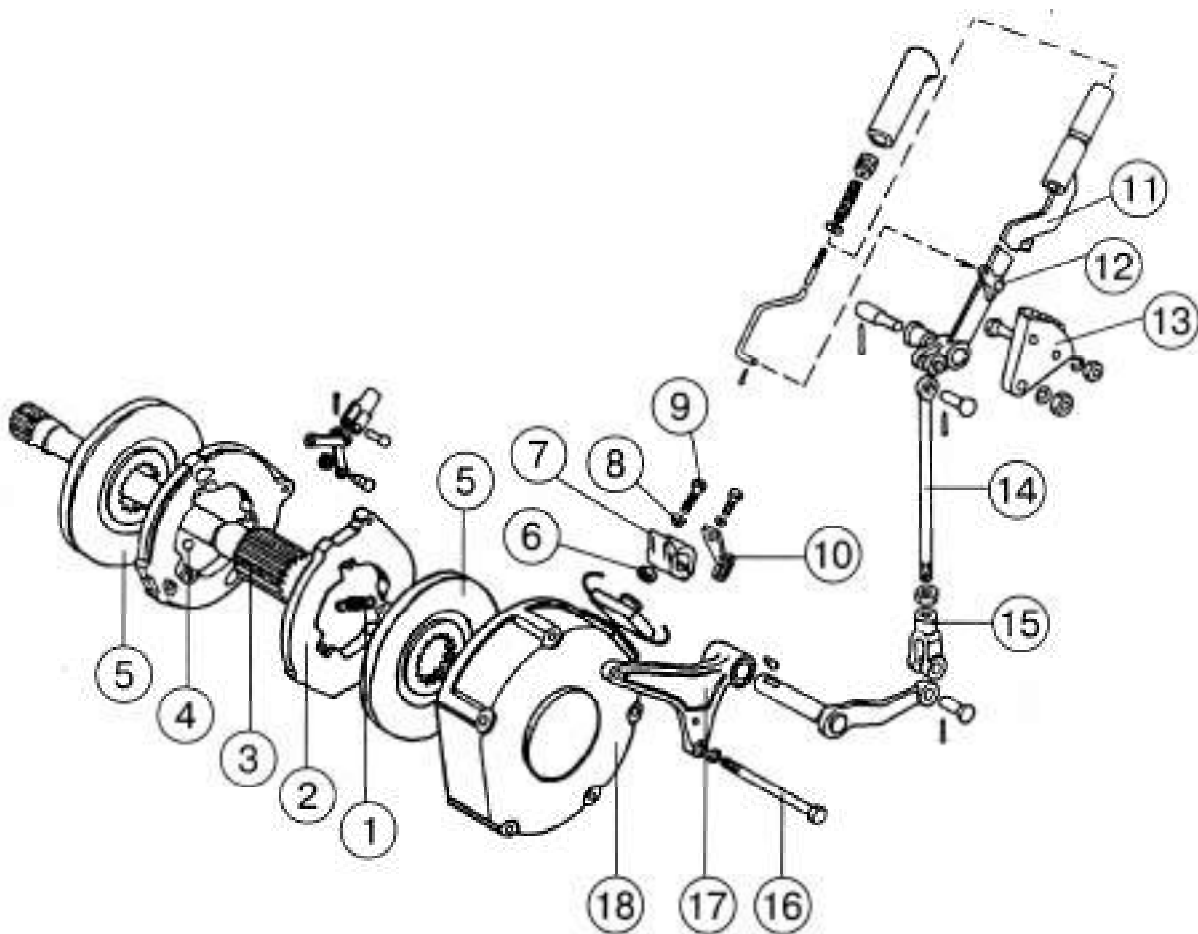

Fig. E-21. Parking brake structure and control:
The tractor is equipped with a dry two-disk parking brake of reduced standard size (with the diameter of 178 mm), attached to the housing of the right-hand service brake. The brake disks (5) (Fig. E-21) are mounted on the splines of the shaft (3) located inside the right-hand hub-drive pinion shaft and is connected to the rear-axle differential spider.